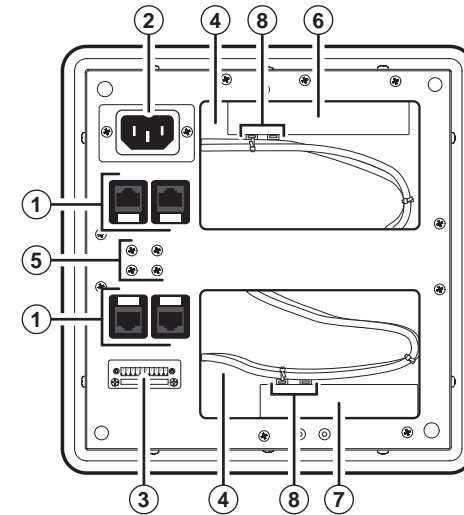

Figure 2-8 — HSA 822M underside features
4. Replace the AAP/RJ-45 panel in the surface mount enclosure and secure it in place with the screws removed in step 1. If you lose an AAP/RJ-45 panel screw, four spare screws are stored in the underside of the enclosure (figure 2-8 on page 2-11, item ⑤).